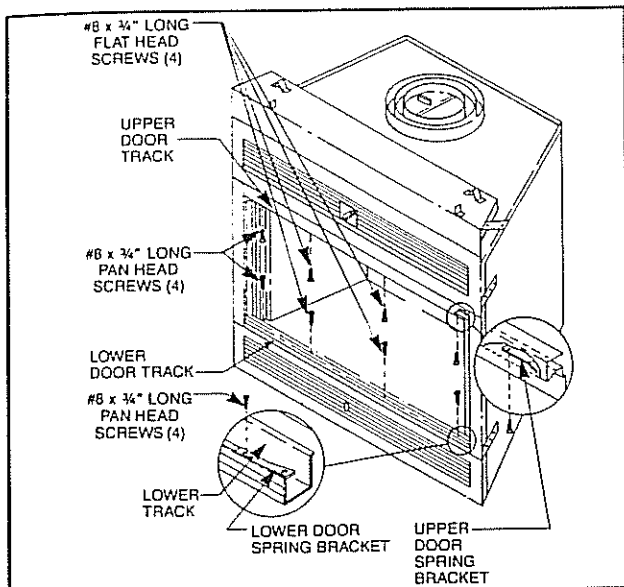

Fig. 30. Mounting door tracks.
You will find prepunched holes in the top and bottom surround for the mounting of the door tracks. With the shorter leg of the track facing away from the fireplace, place one spring bracket in each end of the door track. (See Fig. 30.) **(NOTE: #8 x 3/4 inch long pan head screws must be installed into slots in spring brackets with holes in brackets positioned to outward ends of door tracks.)** Using two (2) #8 x 3/4 inch long pan head screws, position the door track and two (2) spring brackets as shown in Fig. 30. Install two (2) #8 x 3/4 inch long flat head screws in center of two (2) holes of door track, securing the door track to the bottom surround, making certain the spring brackets are positioned as close to the spring brackets are positioned as close to the sides of the fireplace as possible. Attach the remaining door track to the top surround using the same method.